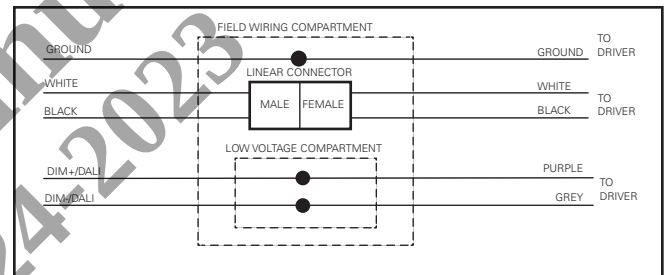

Figure 9.
4. 120V or 277V AC Supply: Connect white to white, black to black and green (from electrical service) to the bare copper wire in the junction box. The linear disconnect is marked for white (common) and black (hot) (Figure 9.). If the fixture is to be switched from a wall switch, connect the black power supply wire to the switch.
- a. For 0-10V dimming, use purple wire for DIM+ and gray wire for DIM- in the low voltage compartment (Figure 9.).
- b. For DALI dimming, use purple and gray wires, Color code does not matter (Figure 9.).